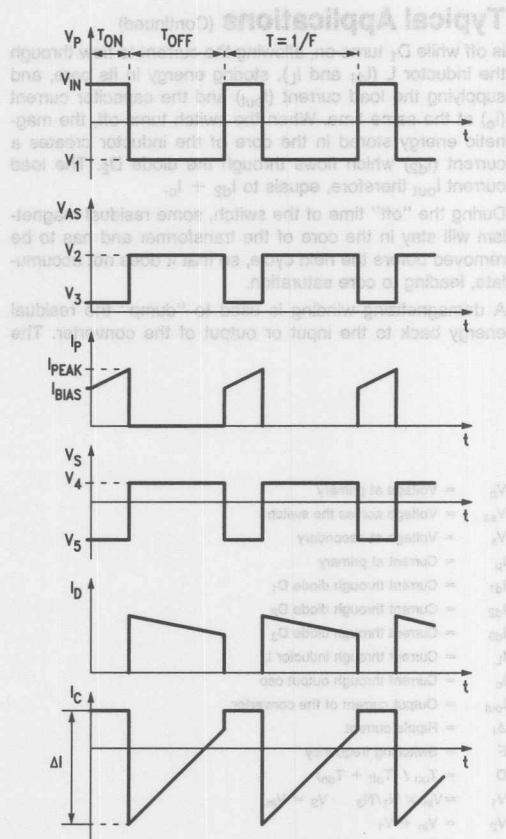

FIGURE 3. Typical Flyback Waveforms
The load current is not supplied directly by the input source when the switch is on, but only by the energy stored in the output capacitor. The output voltage is monitored by the feedback loop which controls the duty cycle (D) through the PWM (Pulse Width Modulator) which in turn, modulates the amount of energy being transferred from the input to the output. Figure 3 shows the waveforms of a continuous mode flyback converter (primary current I_p is DC biased).